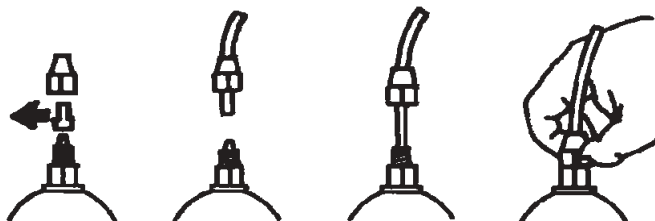

Fig. 7
**e.** - Remove the protection caps from the two nipples, slide the hoses over the connectors, pushing them right home, and then fix them with appropriate tube nuts. (Fig. 7).